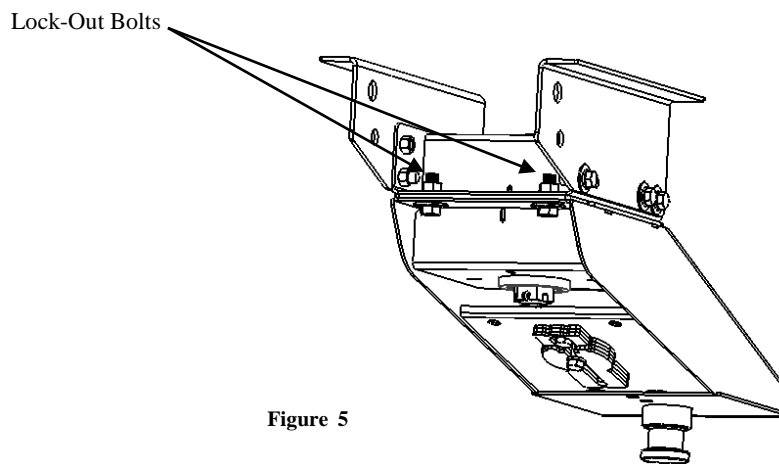

Figure 5
The Sidewinder™ Pin-Box is very versatile and can be used as a standard pin box – Conventional Transport. For conventional transport (2) ¾" GR 5 Bolts and Hardware are installed in the back of the unit (figure 5), on OE applications these come installed from the factory and may or may not have been removed by the dealer. The two bolts prevent rotation and allow use of the pin-box without the wedge installed.
1. Remove (2) $\frac{3}{4}$ " Lock-Out bolts and hardware from the rear of the pin-box (figure 5). You can store them in the holes pointed to. (figure 6)
2. Remove the universal wedge from it's storage location by removing (2) 5/8-11 X 1 $\frac{3}{4}$ " bolts and lock washers.